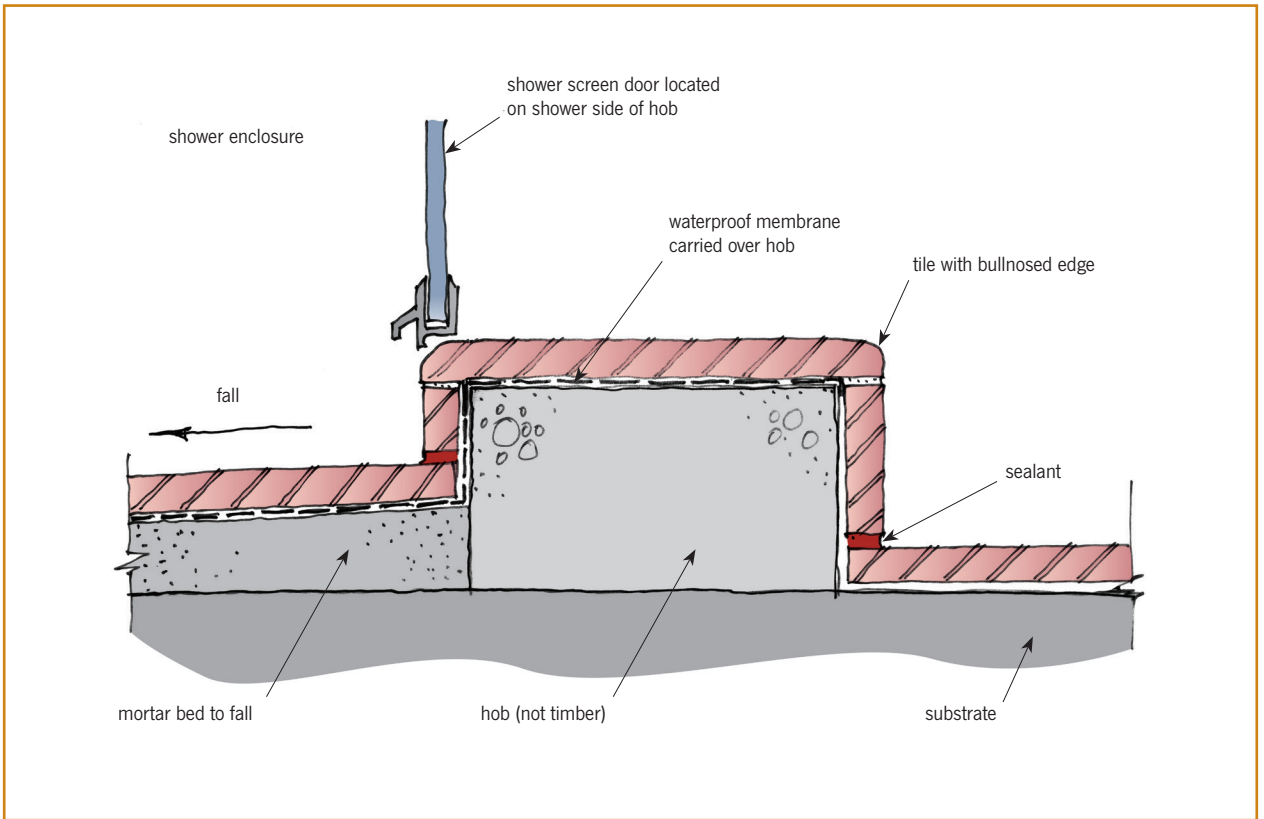

Figure 4. Waterproof hob to shower enclosure.
7.1.4 Ensure that shower hobs are constructed from material that is unaffected by moisture (they must not be timber) and carry the waterproofing membrane over the hob (Figure 4).